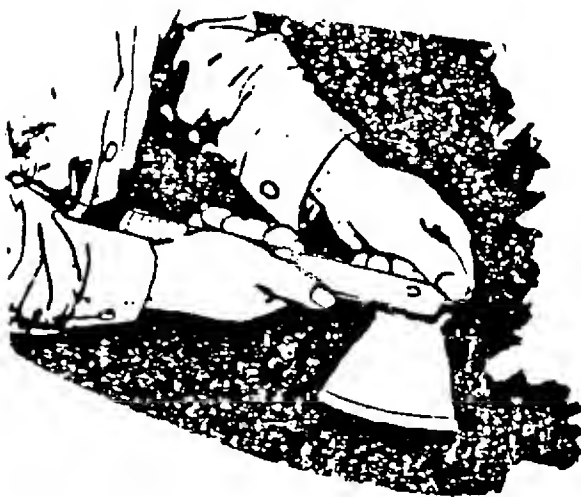

Figure 12 The Light Weight One Pound Axe
A. The Light Weight Axe is actually a miniature axe of extreme lightness. This makes a good survival tool for a survival kit, although there are people who want just a small axe for small jobs. In some cases, it can be very practical as a tool for bushcraft jobs. The whole axe would probably weigh up to around a pound. See Figure 12.